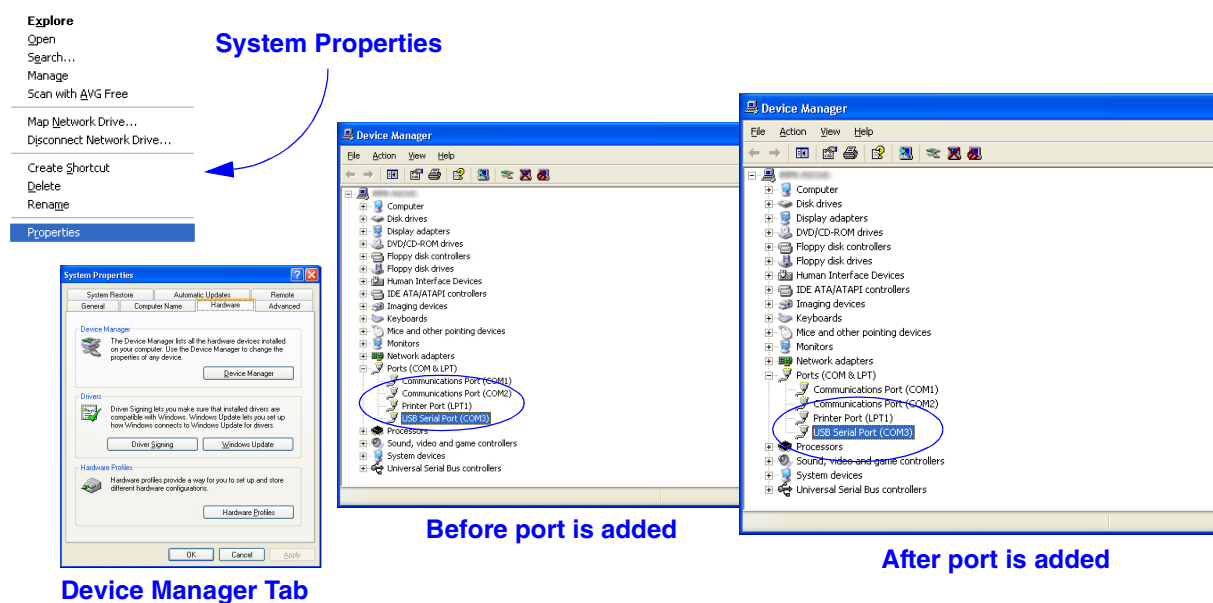

Figure 4-13 Example Device Manager Screens in XP
8. Examine the COM ports. USB ports are generally added to the bottom of the list and named USB COM port 'x'. (Figure 4-13).